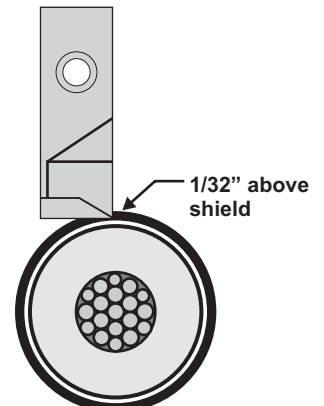
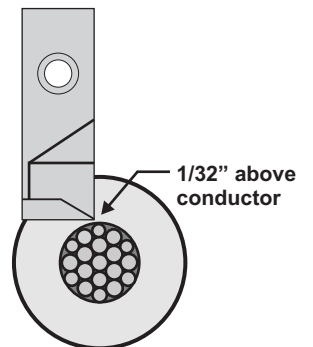

Fig 1
Fig 2
3. To position stripping blade correctly, adjust the blade depth by turning adjustment knob B . The proper setting is approximately 1/32" above the semi-conductor shielding (fig 1) or the same 1/32" above the conductor when end stripping (fig 2).